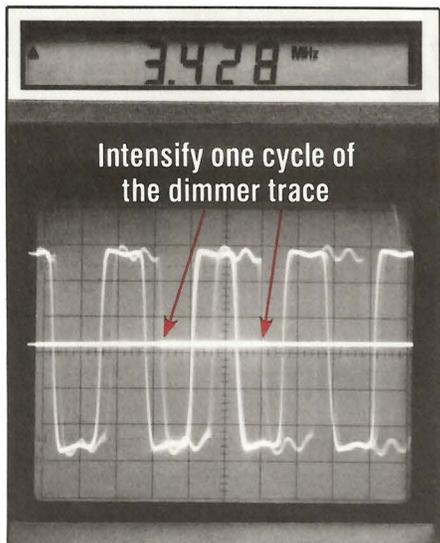

Fig. 2: With a black raster input, the sync tip signal is easily identified as the dimmer of the two traces. Use 1/DELTA TIME to measure its frequency.
**NOTE: The FM modulator will be at the black frequency for the duration of scan time and at the sync tip frequency during retrace time. You will see both of these two signals on your SC61. Since sync time is short compared to trace time, the sync tip signal will be the dimmer of the two signals (Figure 2).**